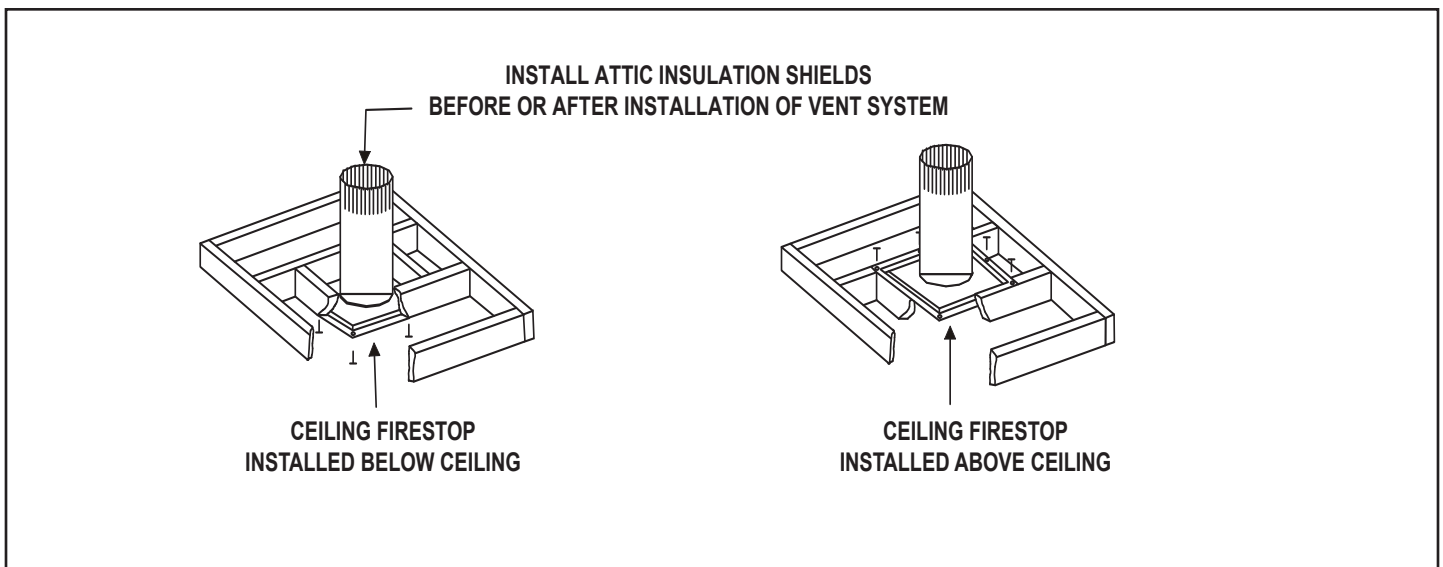

Figure 8.26 Installing the Attic Shield
- The ceiling firestop may be installed above or below the ceiling joists when installed with a attic insulation shield. It must be under joists between floors that are not insulated. Refer to Figure 8.26.